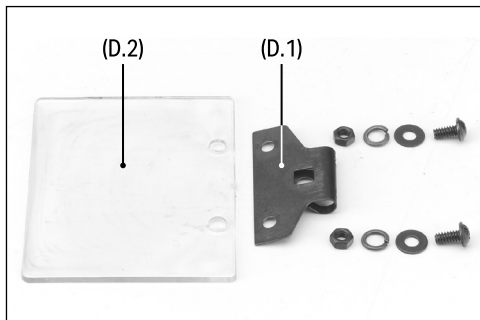
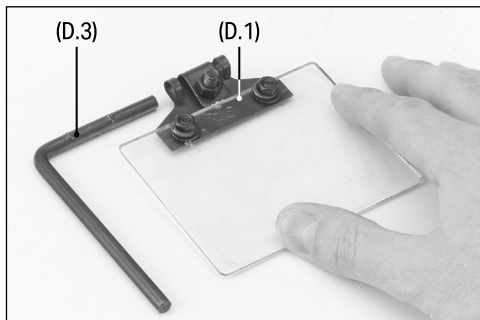

Fig. 4
Fig. 5
6.5 Fitting the Eye Shields (Fig.4 – Fig.5)
1. Fit the eye shields (3) using the (D) fittings.
3. Fasten the two parts together using the long screws, washers and nuts, as shown in Fig.4.
4. Assemble the other eye shield in the same way. Insert the shortest end of the mounting rod (D.3) into the hole in the shield frame (D.1) as shown in Fig.5.